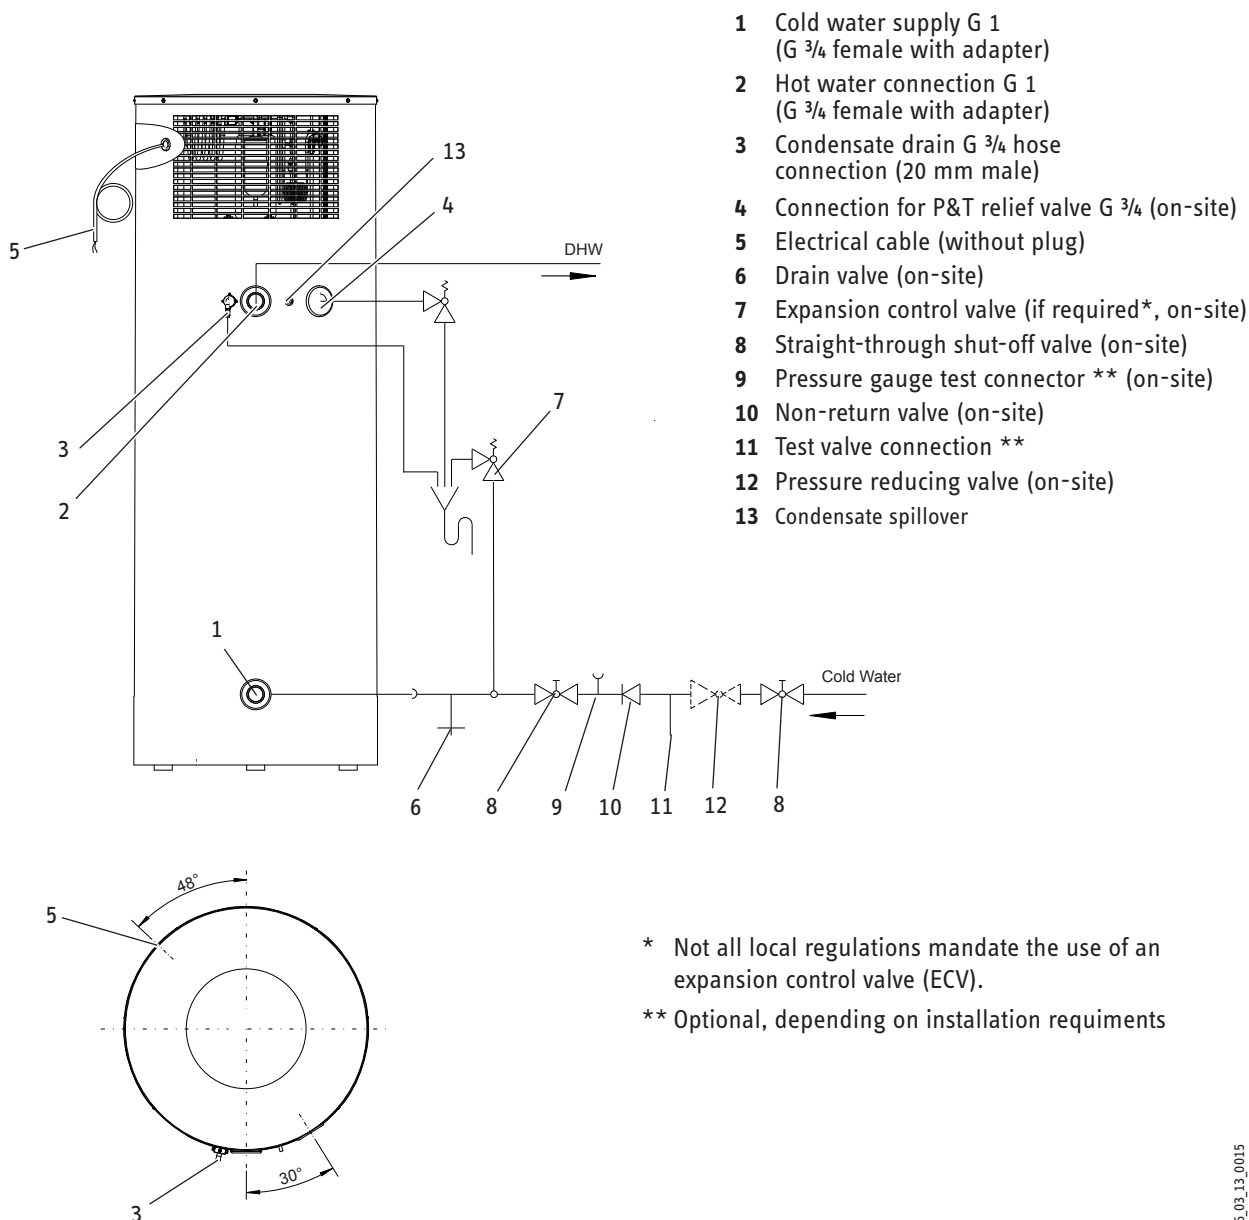

Fig. 1
- Check at least monthly the condensate drain at the middle of the unit (see Fig. 1, number 13) and at the top the condensate pan drain (visual check, see Fig. 3, pos. 15). Remove contaminants and blockages immediately.
Accurately maintain the order of fittings on the cold water side (see Fig. 1).
Install a 700 kPa pressure and temperature relief valve (PTRV) (Fig. 1, pos. 4).
Observe the requirements for expansion control valve (ECV) (Fig. 1, pos. 7). In such case, use a 550 kPa valve.
A pressure reduction valve (PRV) must be fitted (Fig. 1, pos 12) and adjusted to a maximum of 500 kPa. If the ECV is required, set PRV to a maximum of 420 kPa.